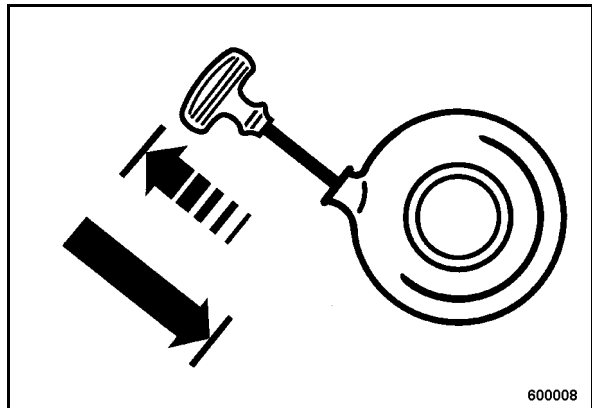

Fig. 20
- Slightly pull the starter handle (Fig. 20), until resistance can be felt (compression pressure), but do not pull out completely.